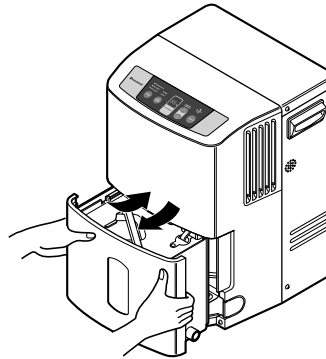

Figure 7
3. Remove the bucket. (See Figure 7)